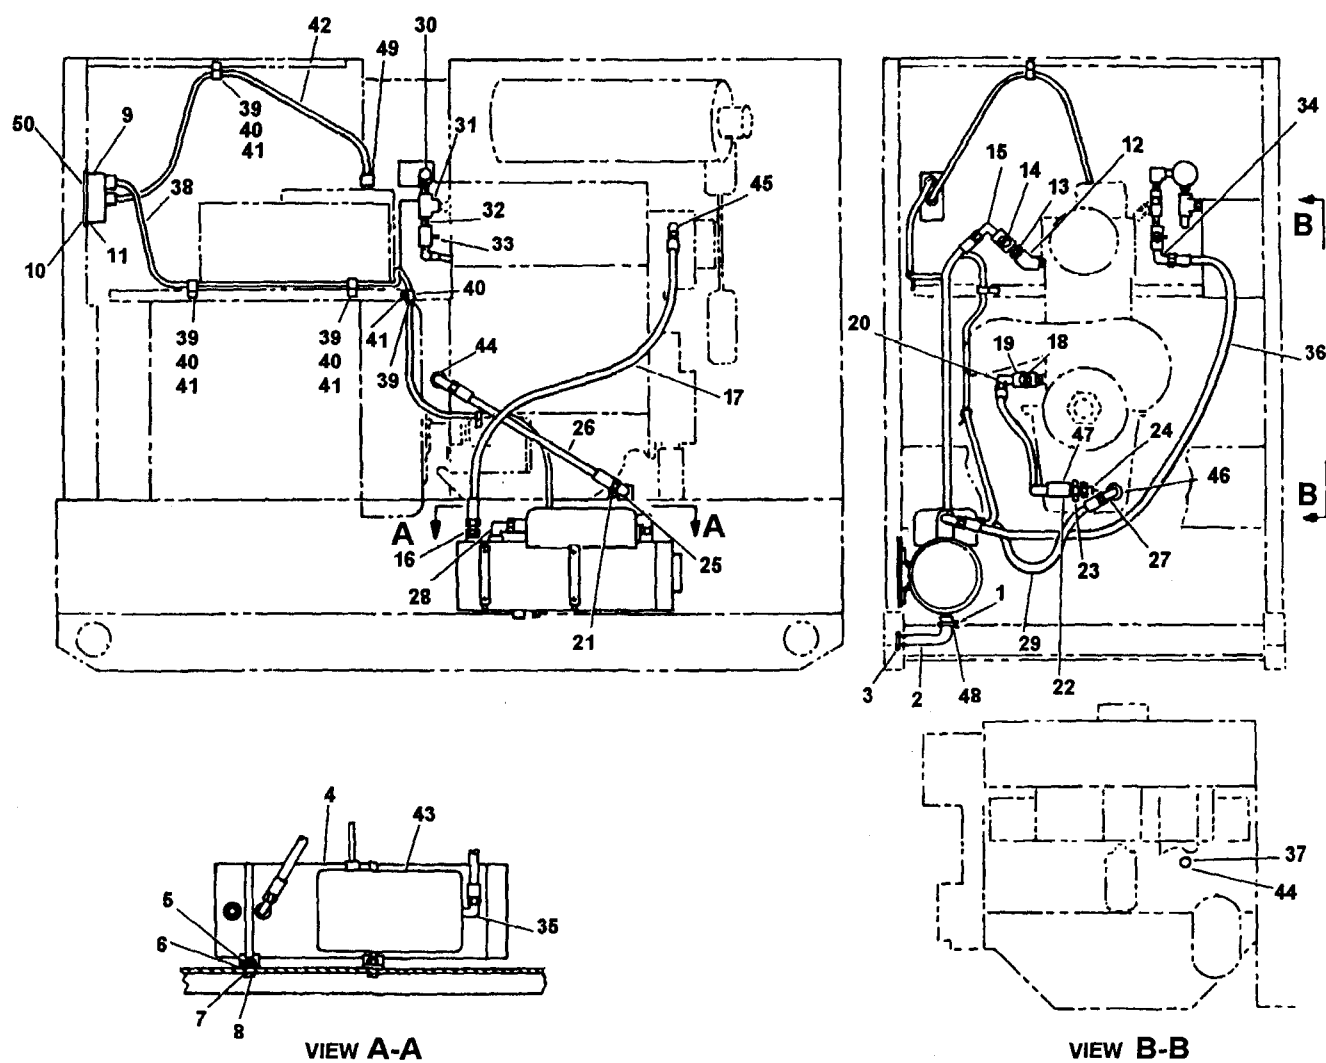

Figure 5-1. Fuel Burning Winterization Kit Installation (Sheet 1 of 2)
- (1) Refer to paragraph 5-7 and remove heater assembly protective cover (43, Figure 5-1).
- (2) Refer to paragraph 5-7 and remove heater assembly protective cover (43, Figure 5-1).
- (3) Remove "WATER" plug (44, Figure 5-1) from center, right-rear of engine cylinder block (use impact wrench if necessary).
- (4) Remove plug (45) from right side of engine water pump assembly.
- (5) Remove "WATER" plug (44) from center, left-rear of engine cylinder block.
- (6) Remove plugs (46 and 47) from engine oil pan heat exchanger.
- (7) Remove plate (48) located in skid base directly below heater mounting space.